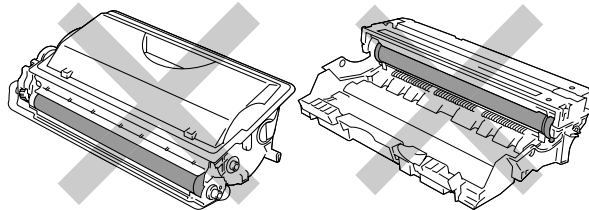

Fig. 5-8
- (6) Close the top cover of the printer.
- Make sure that the wire cleaner on the drum unit is returned to the home position (▲ mark position) before putting the drum unit back into the printer, or printed pages may have a vertical stripe. (Refer to Fig. 5-8.)